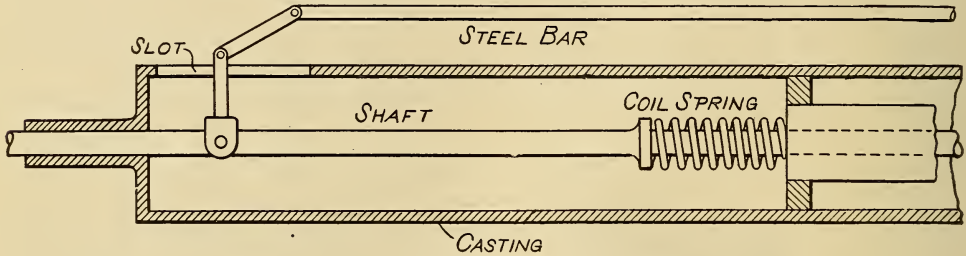
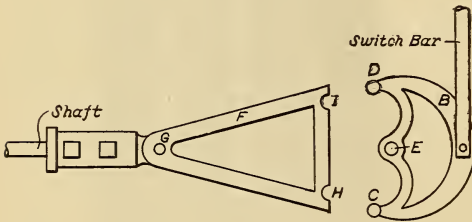

FIG. 1. MAGNET BAR AND SHAFT FOR OPERATING TRACK SWITCH.
FIG. 2. CAM FOR OPERATING TRACK SWITCH.
shown in Fig. 1. In this casing is a shaft which moves longitudinally. Attached to this shaft is a lug to which a longitudinal steel bar is fastened by a toggle joint as shown. When the magnet under the car passes over the bar the latter is drawn up, if the magnet be energized, and the shaft thereby pulled over toward the right to operate the switch cam shown in Fig. 2. A coil spring shown in Fig. 1 normally holds the shaft to the left extremity of its throw.
Upon examination of Fig. 2 it will be seen that the shaft operates to move the triangular member (F) forward and